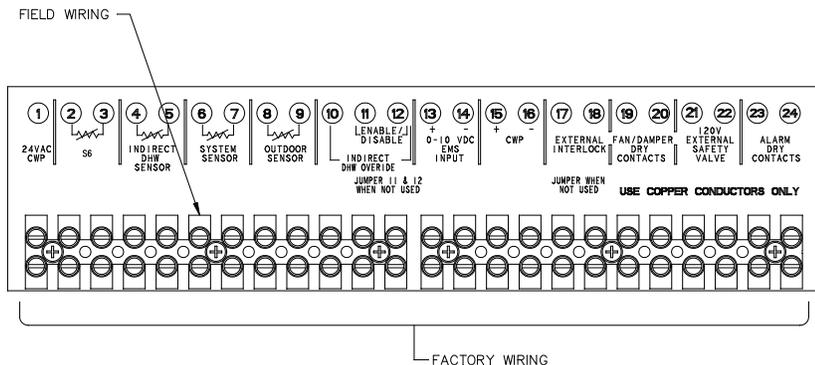

Fig. 33: Low Voltage Field Wiring
2. If using an Outdoor Sensor (option B-32), connect the sensor wires to the terminals marked OUTDOOR SENSOR (see Fig. 33). Caution should be used to ensure neither of these terminals becomes connected to ground.
3. Connect the FT\_BUS wires to the PIM by pressing down on the slots with a small screwdriver and then inserting the wires into the holes. See Fig. 33.
3. Connect the system supply sensor to terminals 6 and 7 on the field wiring strip located on the Master PIM (See Fig. 33).
4. Connect the Outdoor sensor (if used) to terminals 8 and 9 on the field wiring strip located on the Master boiler (See Fig. 33).
5. Connect the Enable/Disable wiring to terminals 11 and 12 on the field wiring strip located on the Master boiler (See Fig. 33). This connection must be provided through dry contacts closure.
An alarm annunciator or light may be connected to the alarm contacts on the field wiring terminal strip. The Alarm Contacts are 3A rated dry contacts on a normally-open relay that close during fault or lockout conditions, and the maximum voltage across the contacts is 30 VAC or 30 VDC. See the Field Wiring as shown in Fig. 33.